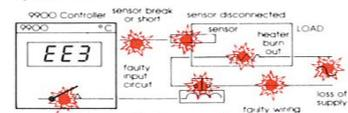

Fig. 3 Typical faults detected by LBA
- LBA – Loop break alarm **see Fig. 3**